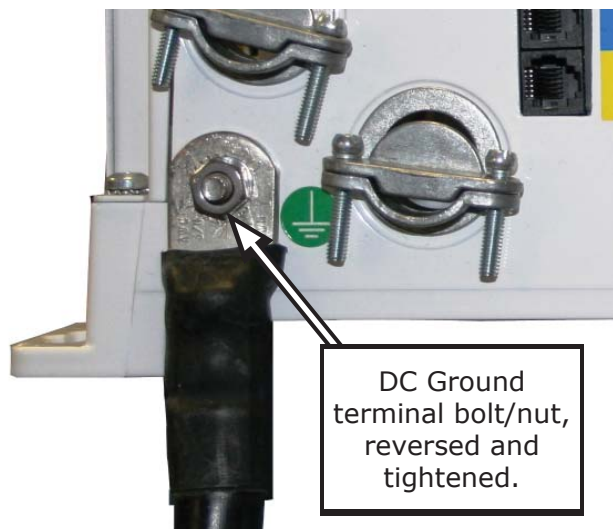

Figure 2-23, Large ground wire connected to MS Series
4. Reverse the removed bolt and place back in the chassis hole to attach a correctly sized ground cable to the MS Series chassis as shown in figure 2-23.